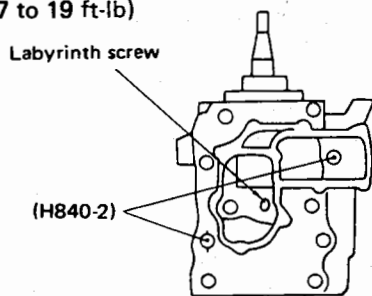

Fig. 51 Installing the crankcase installing bolt :
- 5) Use 2 types of crankcase installing bolts (H845-8 H840-2) and tighten to the specified torque at the correct positions. (Fig. 51)